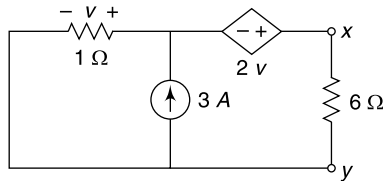

Fig. 4.195
34. Find the current in the $6\ \Omega$ resistor of Fig. 4.195 using Thevenin's theorem. [Ans: 1 A]